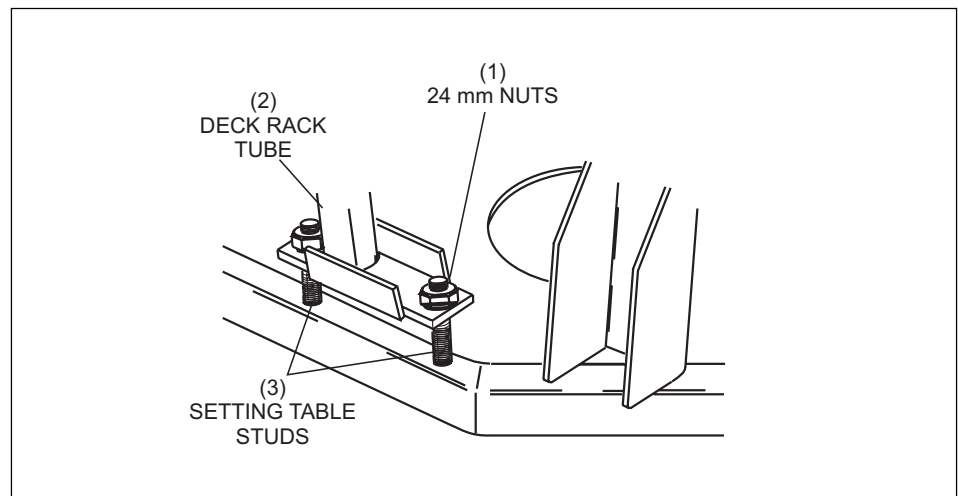

Figure 8-3. Removing Table from Deck Rack Tubes.
5. Disconnect the square shaft assemblies from the setting table. Refer to *Figure 8-3*.
6. Remove the four upper 24 mm nuts that secure the table to the deck rack tubes. Refer to *Figure 8-3*.